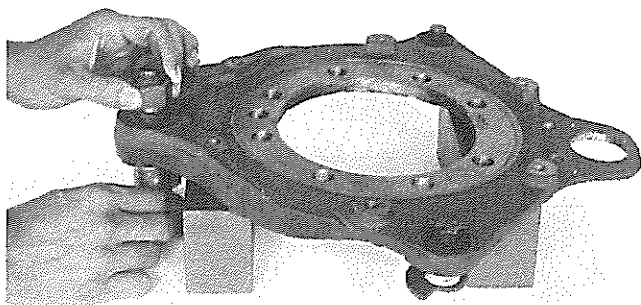

FIG. 114
2. If anchor pins were removed, coat eccentrics with Never-Seez compound, position in brake disc, and install nuts, but do not tighten (Fig. 114).